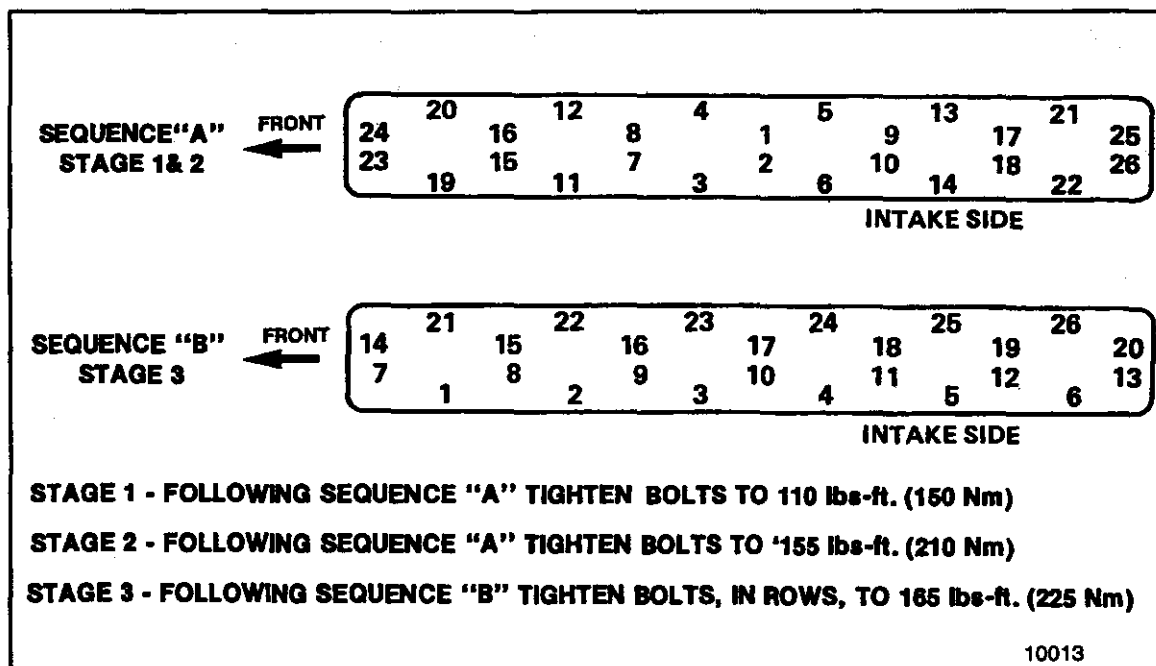

FIGURE 7-2 Sequence for Tightening Cylinder Head Bolts
2. Tighten bolts in three (4) stages as shown in **FIGURE 7-2**